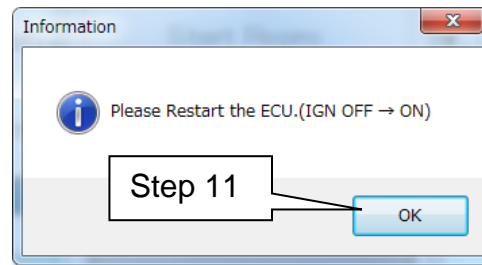

Figure 30
- After selecting OK in Figure 30, the OCS reprogramming will likely complete items 5 through 7 quickly (see “Complete” screen, Figure 32 below).